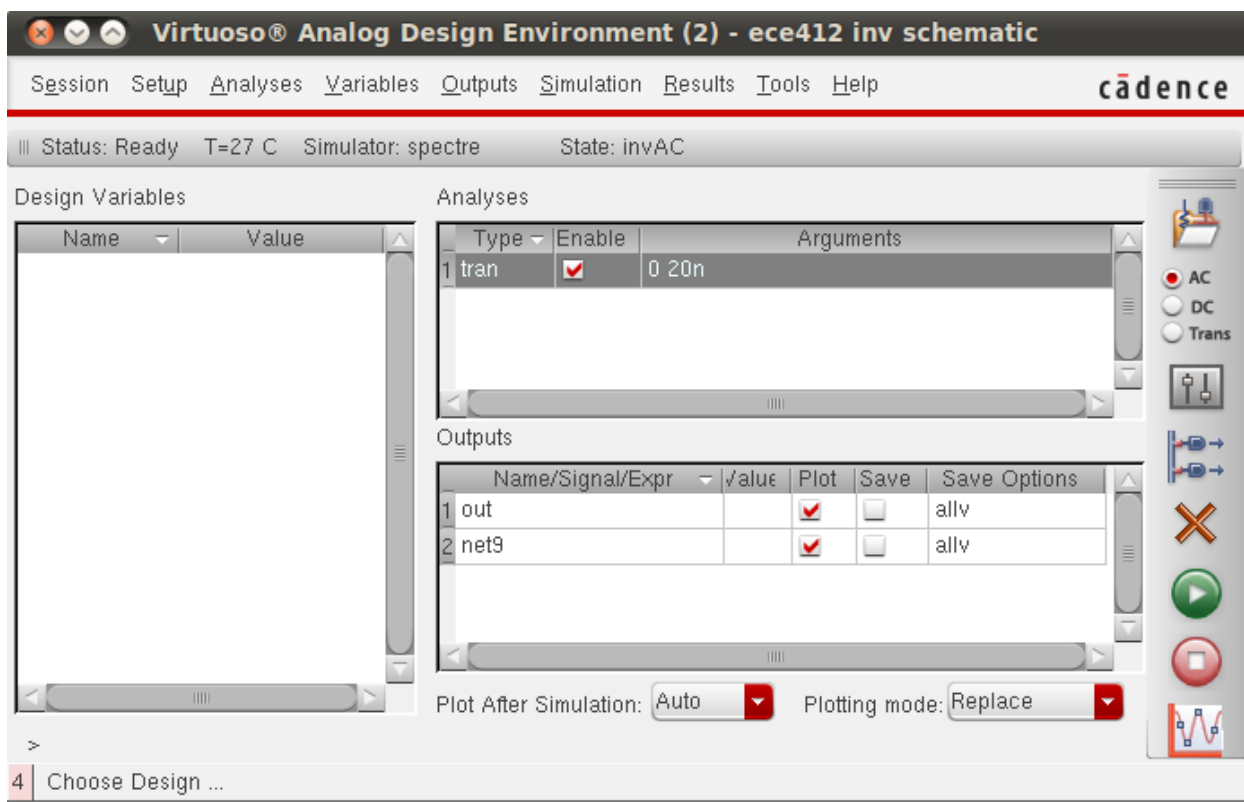

Figure 4: ADE L Test Editor with new settings
5. Your simulation environment is ready now and it should look like figure 4.
7. The ADE L (figure 4) environment state can be saved for future usage, to save go to **Session → Save State ..** and enter an appropriate file name in the **Save As** box.